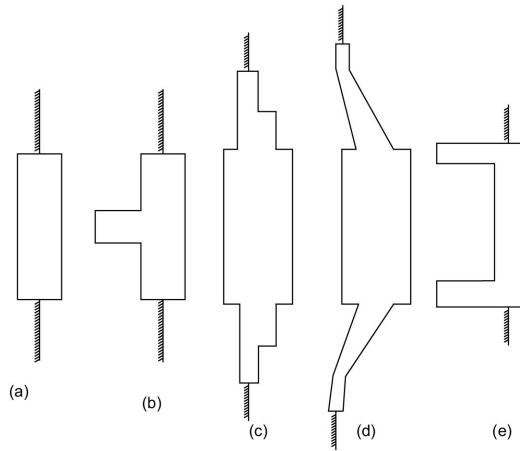

Fig. 18.1 Shape of abutments
* **Abutments:** Commonly used abutments are shown in Fig. 18.1.